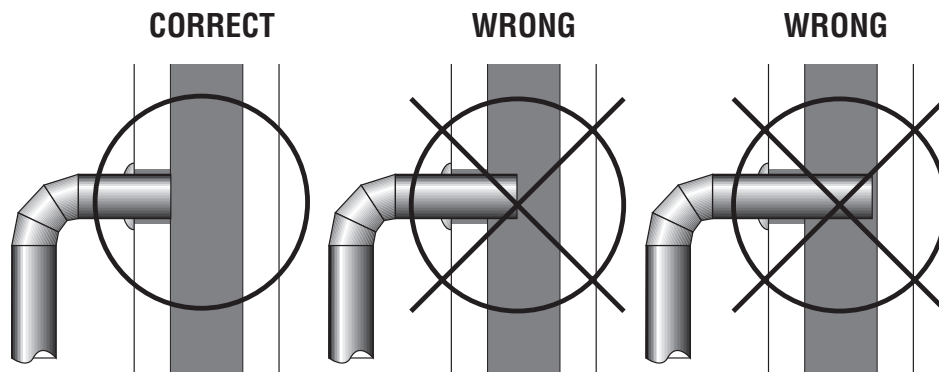

Fig. 3 – Stovepipe/Flue Connections
1. The smooth end of the stovepipe fits over the cast iron damper collar. Secure with three (3) sheet metal screws.
4. The pipe cannot extend into the chimney flue (figure 3).
5. Secure pipe/elbow sections with three (3) sheet metal screws at each joint to make the piping rigid.
6. It is recommended that no more than two (2) 90° bends be used in the stovepipe installa-